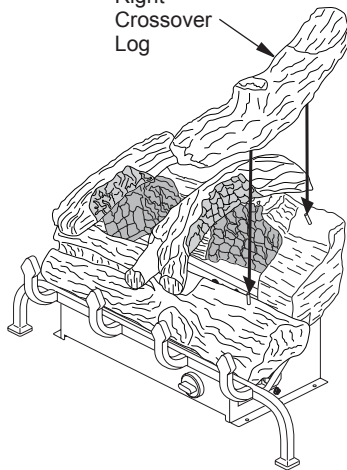

Figure 21 - Installing Right Crossover Log
6. Place the right crossover log as shown in Figure 21. The bottom of the log is marked with a "R" for right. Match square peg on right side of rear log with square hole in bottom of right crossover. Match round peg on right side of front log with round hole in bottom of right crossover log.